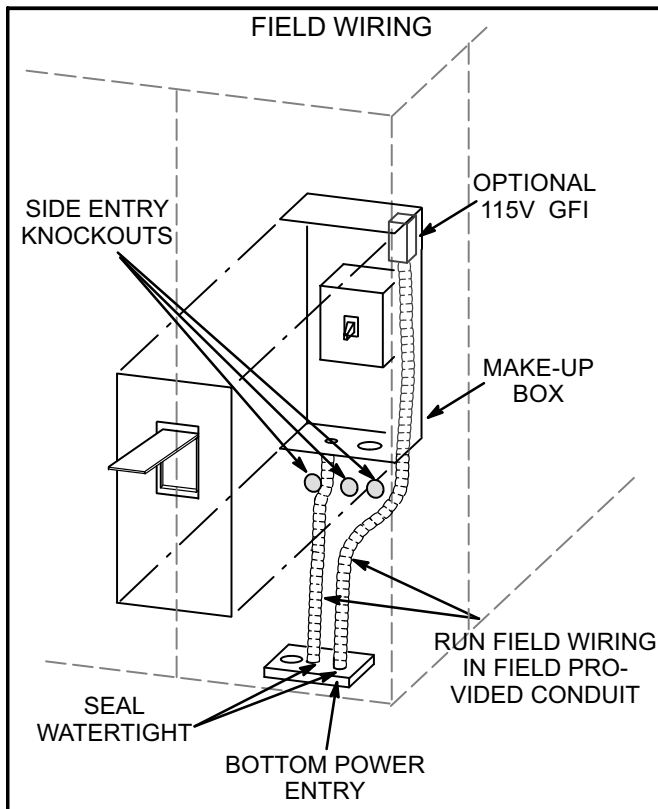

FIGURE 12
- 3- Route field wiring in field-provided conduit as shown in figure 12.